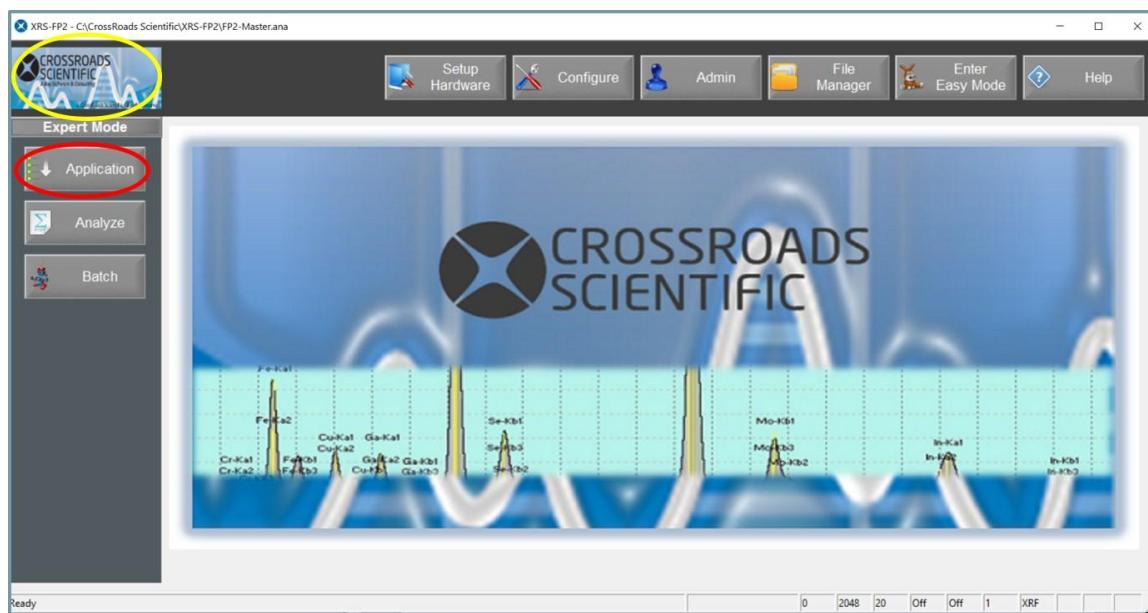

Figure 4. XRS-FP2 Application Setup. From the XRS-FP2 home screen select the application button to setup the application.
- Now click on the **Home** button (Fig. 4, yellow circle), then select the **Application** button (Fig. 4, red circle).